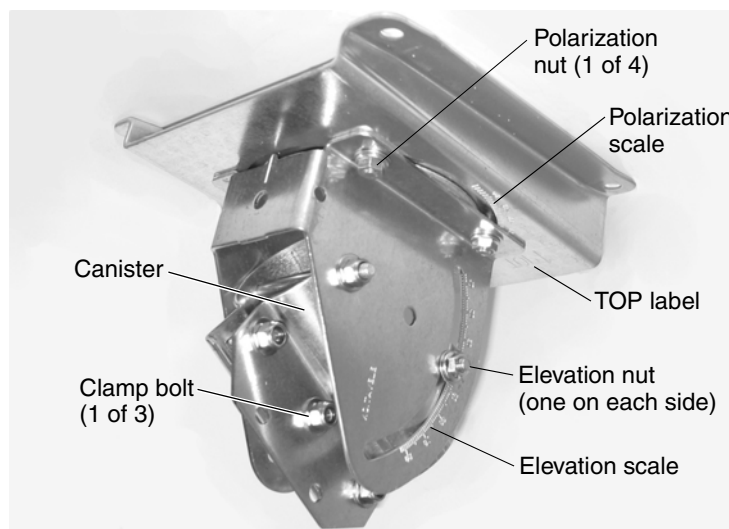

Figure 39: Antenna adjustment locations
2. If you have not already done so, tighten the clamp nuts all the way; then loosen them just enough to move the antenna reflector from side to side to adjust the azimuth. The clamp bolts should be as snug as possible, while still allowing the antenna reflector to be moved from side to side. See Figure 39.